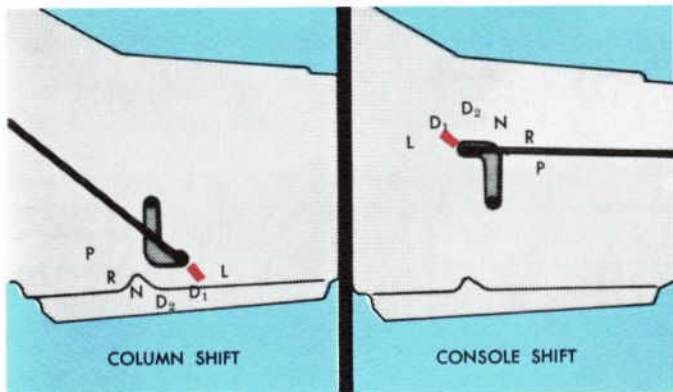

Fig. 89—Transmission Manual Valve Lever Positions
- 3 Shift the manual lever on the transmission to D1 (Fig. 89).
- ③ Move the manual-shift lever on the transmission to the D1 position (Fig. 89).
- ④ Tighten the nut to the specified torque while the selector and shift lever are both in D1.
- ⑤ Check the other selector positions, and for starting in neutral and park. If necessary, adjust the neutral start switch.